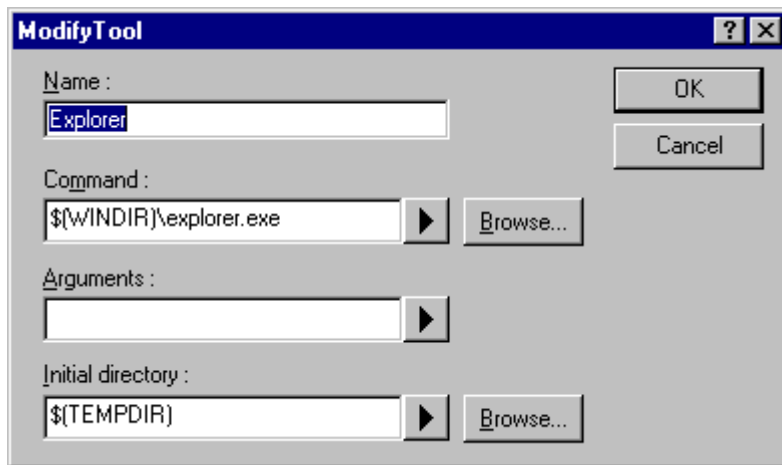

Figure 6.6: Modify Tool Dialog
3. Make the desired changes on the “Modify Tool” dialog * MERGEFORMAT (figure 6.6) and then click “OK”.